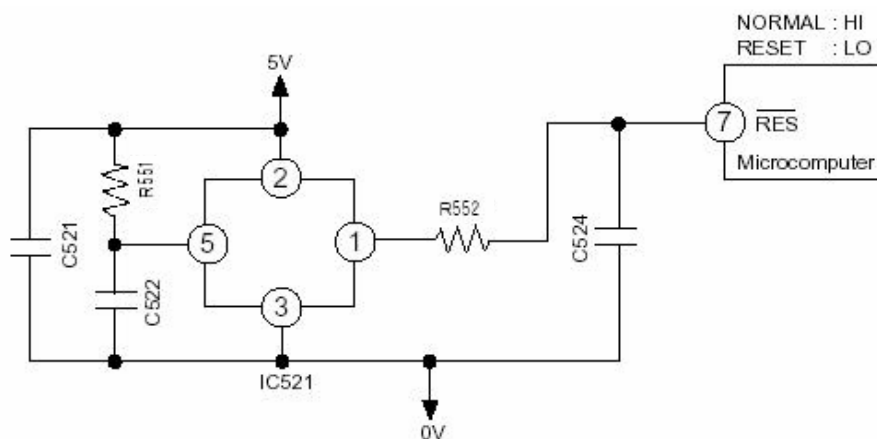

Fig. 1-1
1. The electrical parts for the outdoor unit is composed of two P.W.B (a power P.W.B. and main P.W.B.) and a harmonics improvement circuit as shown in Fig. 1-1.